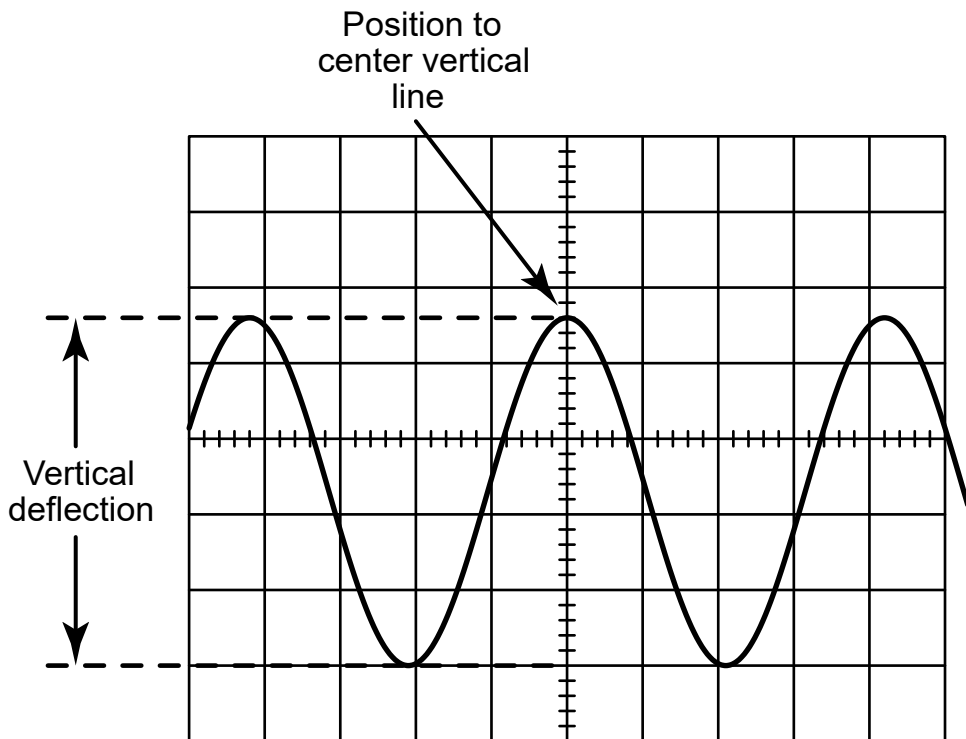

Fig. 3. Measuring peak-to-peak voltage.
- c. Measure the peak-to-peak amplitude of the display or waveform, in graticule divisions (see Fig. 3).